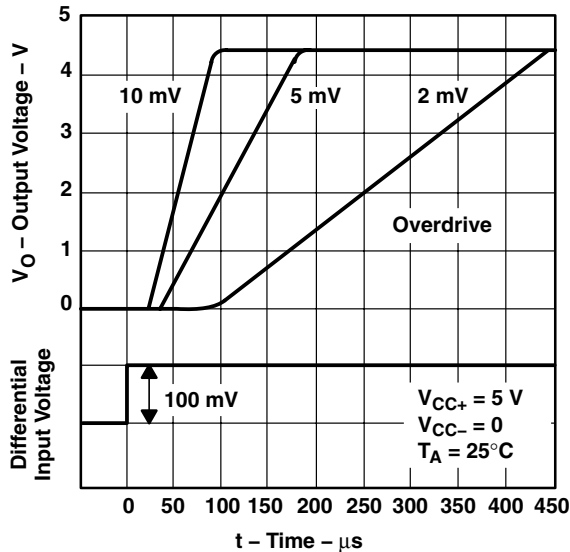

**Figure 24. Voltage-Follower Response**
2. When the input is more than 400 mV below ground (at  $T_A = 25^\circ\text{C}$ ), the input stage of similar type operational amplifiers saturates, and phase reversal occurs at the output. This can cause lockup in servo systems. Because of unique phase-reversal protection circuitry (Q21, Q22, Q27, and Q28), the LT1014 outputs do not reverse, even when the inputs are at  $-1.5$  V (see Figure 24).